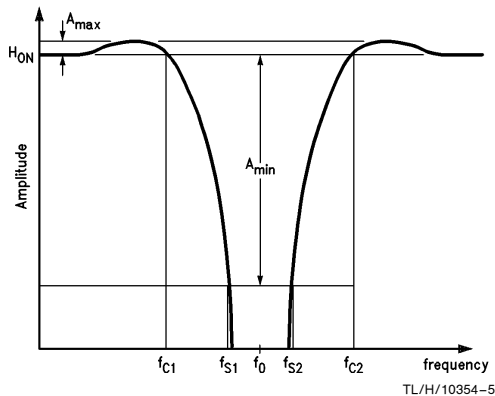

FIGURE 1. General Form of Notch Response
W (Pin 1)	This three-level logic input sets the width of the notch. Notch width is $f_{C2} - f_{C1}$ (see Figure 1 ). When W is tied to $V^+$ (pin 14), GND (pin 13), or $V^-$ (pin 8), the notch width is $0.55 f_0$ , $0.26 f_0$ , or $0.127 f_0$ , respectively.
**$A_{max}$ :** the maximum amount of gain variation within the filter's passband (See *Figure 1*). For the LMF90,  $A_{Max}$  is nominally equal to 0.25 dB.
**$A_{min}$ :** the minimum attenuation within the notch's stopband. (See *Figure 1*). This parameter is adjusted by programming voltage applied to pin 10 (D).
**Bandwidth (BW) or Passband Width:** the difference in frequency between the notch filter's two cutoff frequencies.
**$f_{CLK}$ :** the frequency of the clock signal that appears at the CLK pin. This frequency determines the filter's center frequency. Depending on the programming voltage on pin 2 (R),  $f_{CLK}$  will be either 33.33, 50, or 100 times the center frequency of the notch.
**Passband:** for a notch filter, frequencies above the upper cutoff frequency ( $f_{C2}$  in *Figure 1*) and below the lower cutoff frequency ( $f_{C1}$  in *Figure 1*).
**Stopband:** for a notch filter, the range of frequencies for which the attenuation is at least  $A_{min}$  ( $f_{S1}$  to  $f_{S2}$ ) in Figure 1).